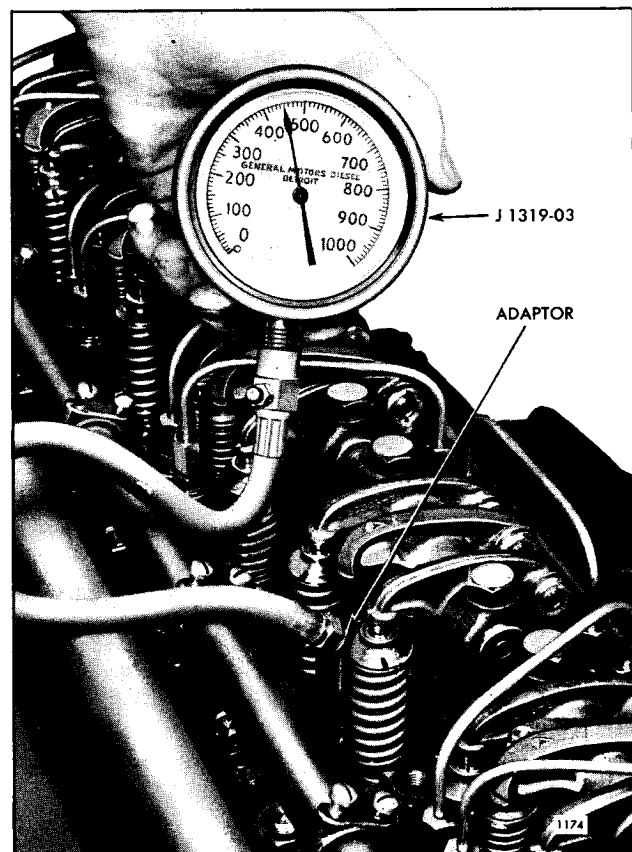

Fig. 3 - Checking Compression Pressure
3. Remove the injector from No. 1 cylinder and install an adaptor and the pressure gage, J 1319-02, in its place as shown in Fig. 3.